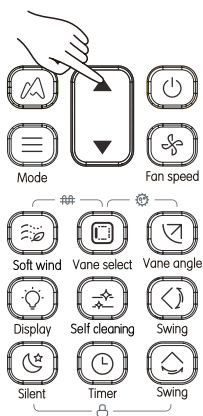

Figure 4.4
② Press  and  to adjust the parameter code;
③ Press  to enter the parameter setting interface, then press the "" and "" keys to adjust the parameter value, refer to the advanced parameter setting list to select the setting parameters.(see Figure 4.4);